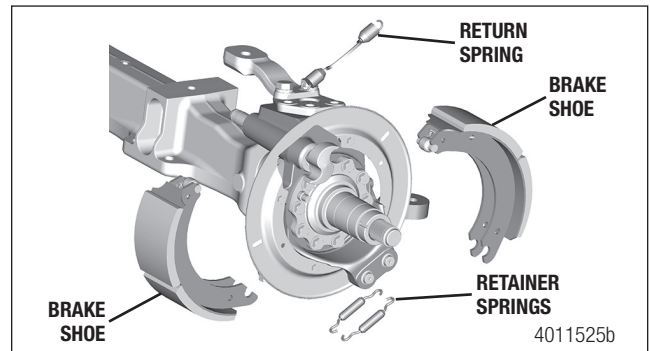

Figure 8.23
12. Install the brake shoes on the brake spider. Install the return springs and retainer springs. Lift the ends of the brake shoes and install the brake rollers. Figure 8.23.